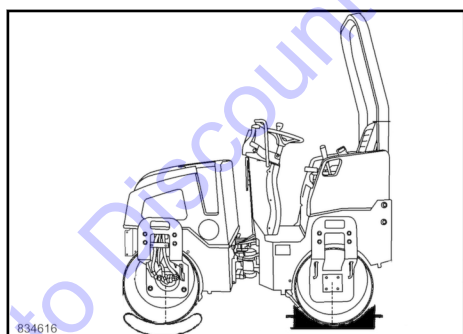

Fig. 117
1. Drive the drum of the machine onto an elastic base (rubber buffers) ↗ Fig. 117 and block the rear drum additionally with suitable chocks.